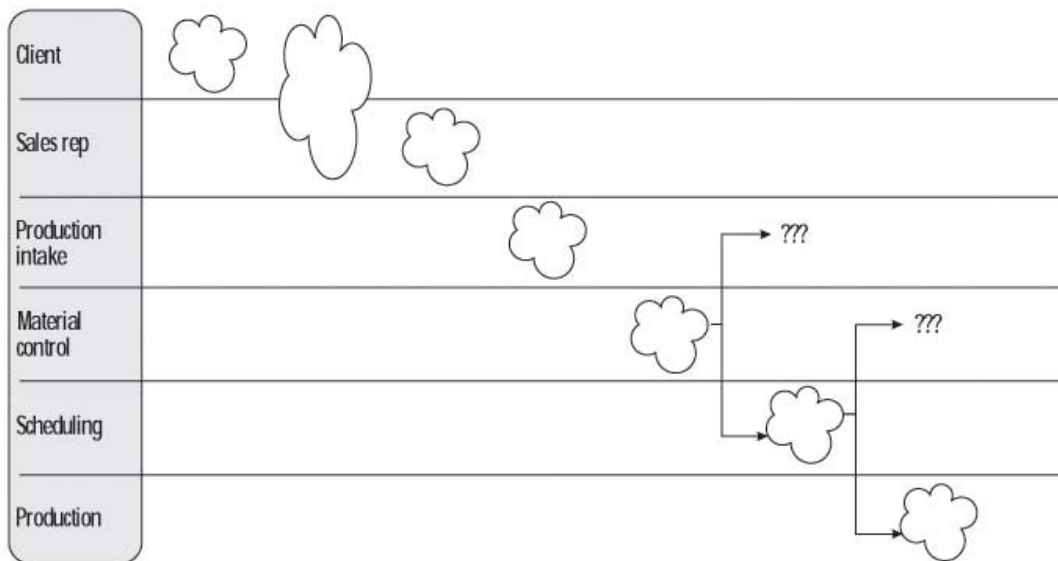

Figure 11.1: Using “clouds” to illustrate the pattern of involvement.
- Figure 11.1 shows what one of these can look like.